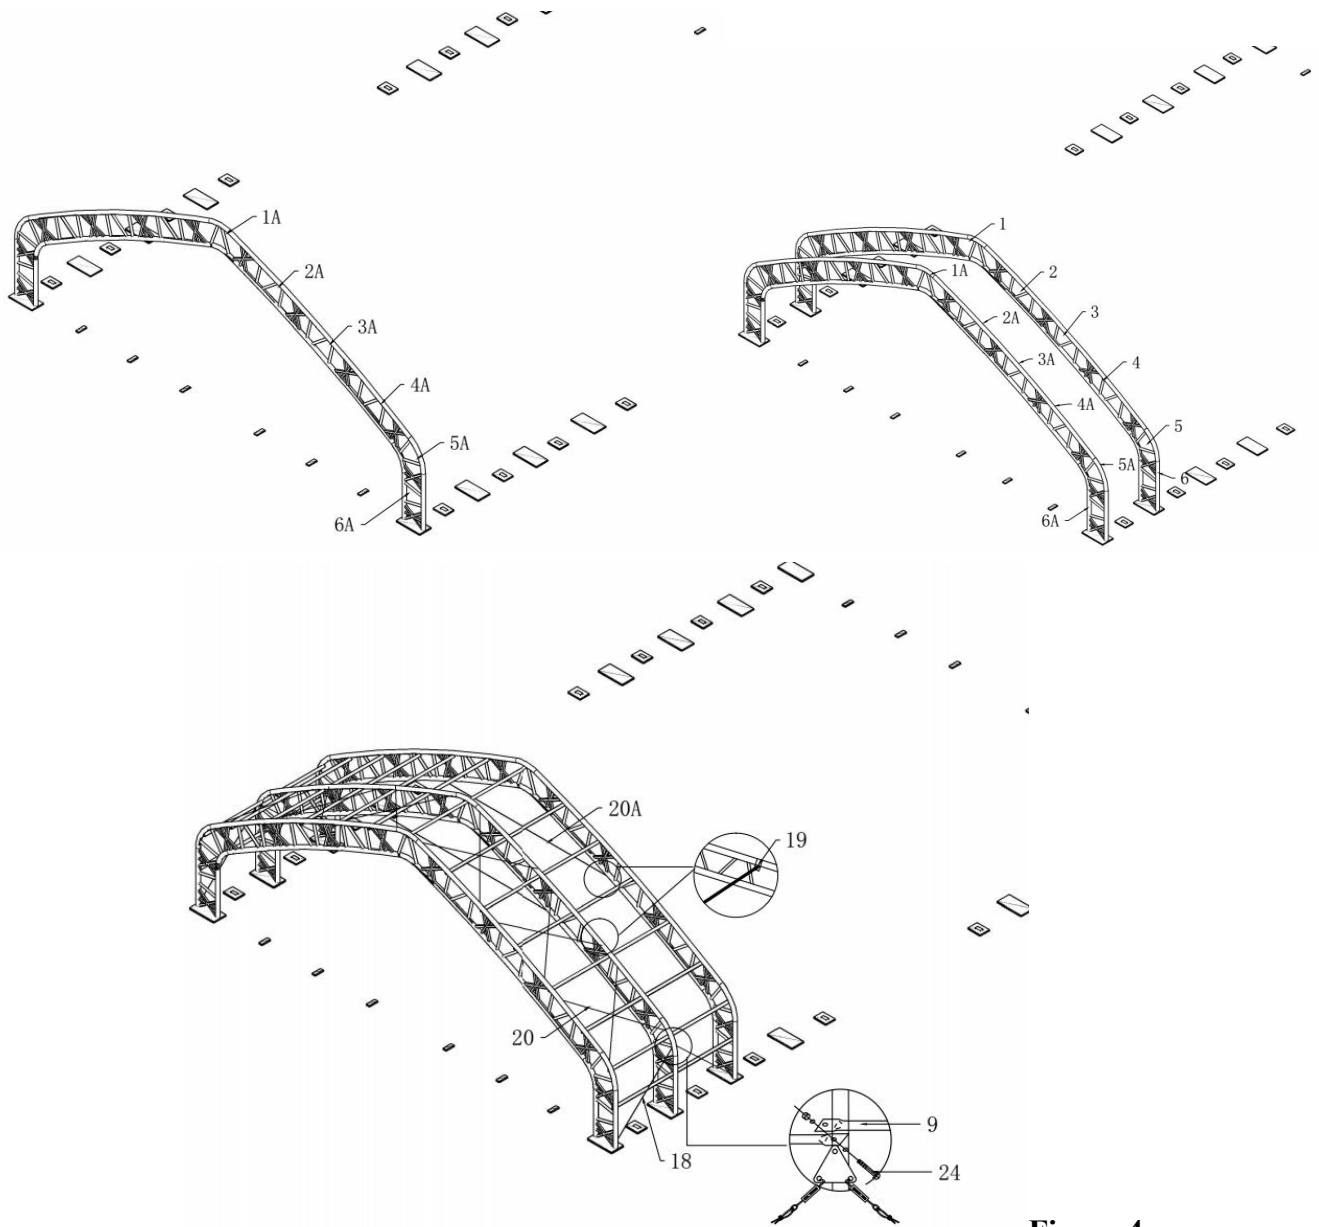

Figure 4
2.Put the arch into tube of Base plate by Hoist, and assemble every group of arch by turns.(see Figure 4).
3.Connect Purlin(No.9) to arch by using Screw12x100mm(No.24) by turns(see Figure 4),then connect the Steel wire(No.18 , No.20 and No.20A) on side and top by using Clips(No.19) and Triangle(No.19A)(see Figure 4)